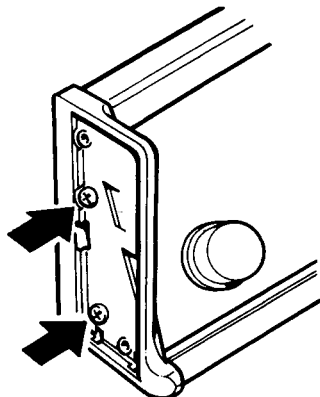

Fig. 9b
4. Remove four screws (two each side) which are now visible in the fascia end caps and two screws located under the fascia panel (see Figs. 9b & 9c).